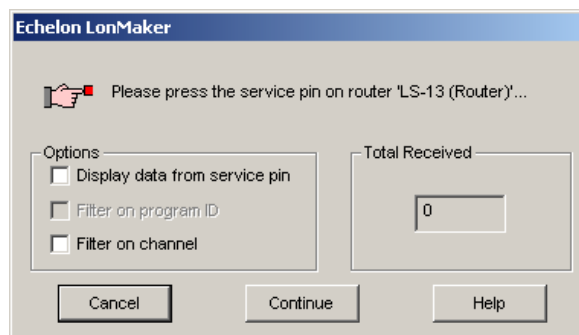

Figure 13: Press the service pin
7. If “Service Pin” was selected in the last dialog the dialog shown in Figure 13 appears. Shortly press the status button on the L-Switch.